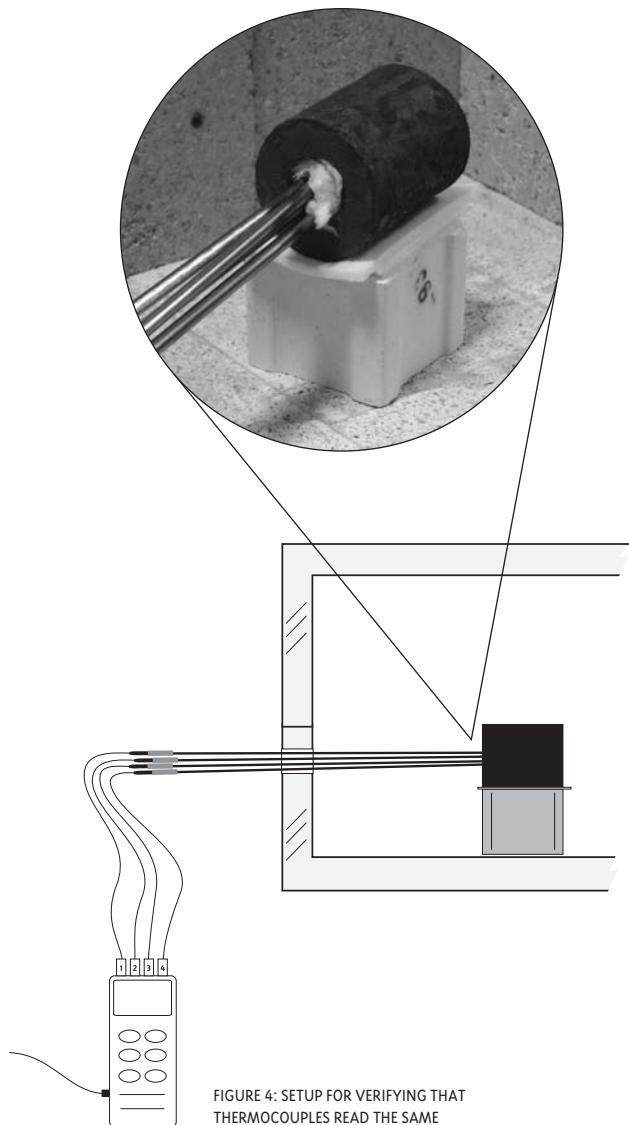

FIGURE 4: SETUP FOR VERIFYING THAT THERMOCOUPLES READ THE SAME
- Label TC & extension wire sets with the number of the input they are plugged into. (Figure 4)